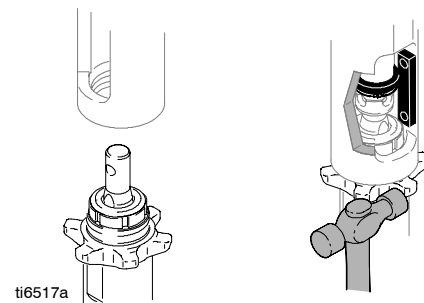

Fig. 14
2. Fig. 14 - 16. Install pump.
3. Install new reed switch and guard (137) on hydraulic motor.
1. Fig. 14. Screw jam nut to bottom of pump threads. Screw pump completely into manifold. Unscrew pump from manifold until pump outlet aligns with hose. Hand tighten jam nut, then tap 1/8 to 1/4 turn with hammer or torque to 200 ft-lb (270 N·m).